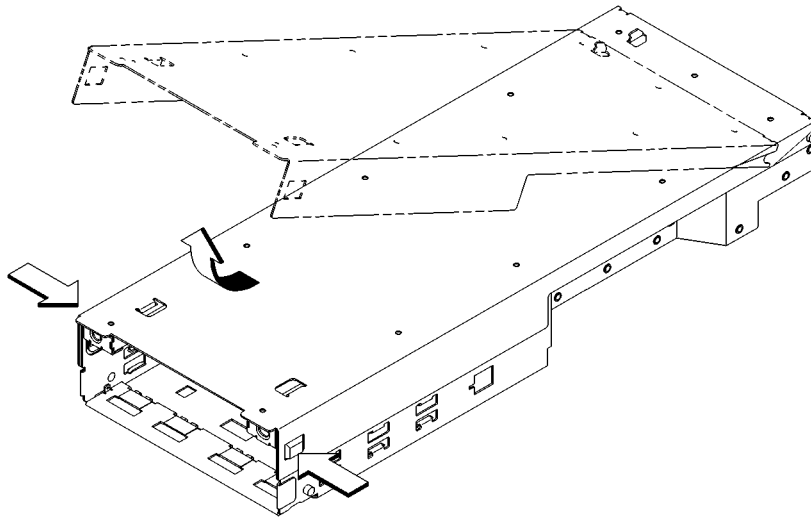

Figure 65 **Removing the Storage Tray Cover**
- 4 Remove the storage tray cover by pressing in the two cover locking tabs then lifting the front end of the cover and sliding it forward off of the pins in the rear, as shown in Figure 65.